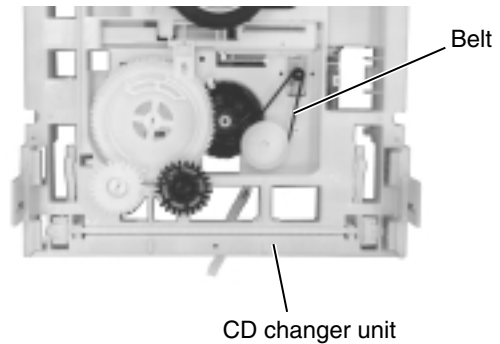

Fig.34
■ Removing the belt, the CD servo board and the switch board (See Fig.34 and 35)